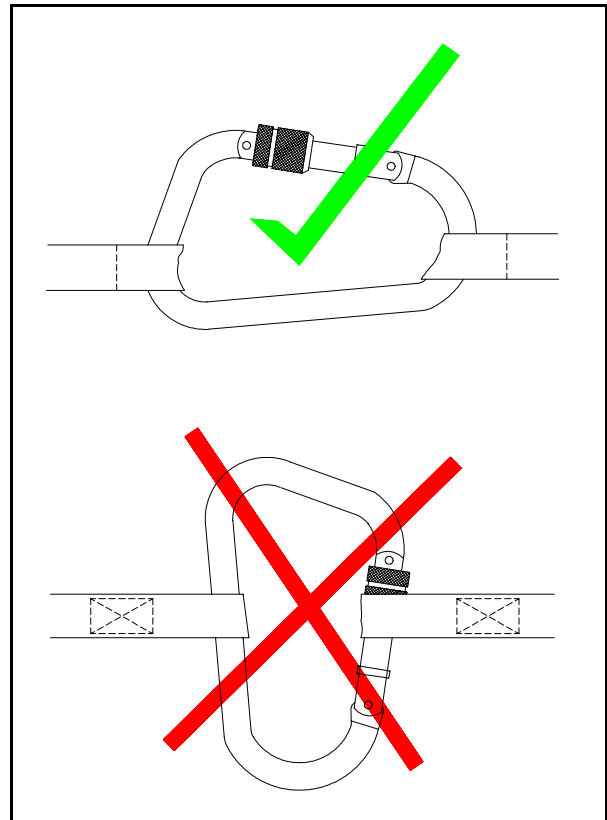

Fig 1.23 Loading a Karabiner
- do not load a Karabiner across (see Fig 1.23) its latitude (that is, across the gate) as this is less than one third its rated strength;